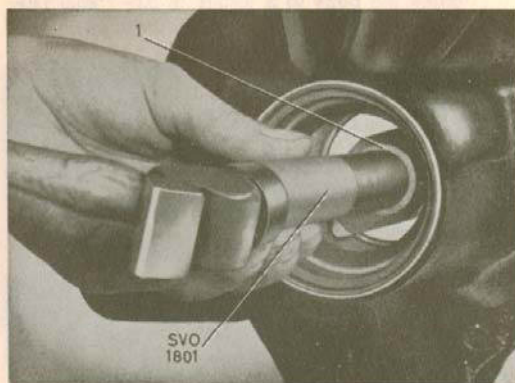

Fig. 5-12. Removing the bearing race
10. If necessary, drive out the bearing outer race, see Fig. 5-12. Use the standard handle SVO 1801 and tool SVO 4063 for the forward and SVO 4064 for the rear race. Do not lose the shims (30) under the rear ring.